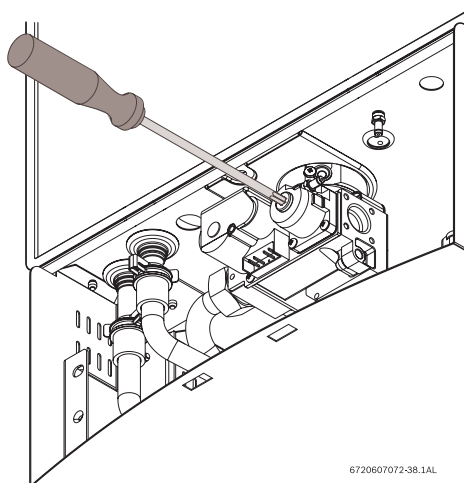

Fig. 56 Adjusting P2 CO₂ level
- ▶ Remove yellow painted #40 Torx cover from the front of the gas valve. (Fig. 56) A plastic #40 Torx screw will be revealed.